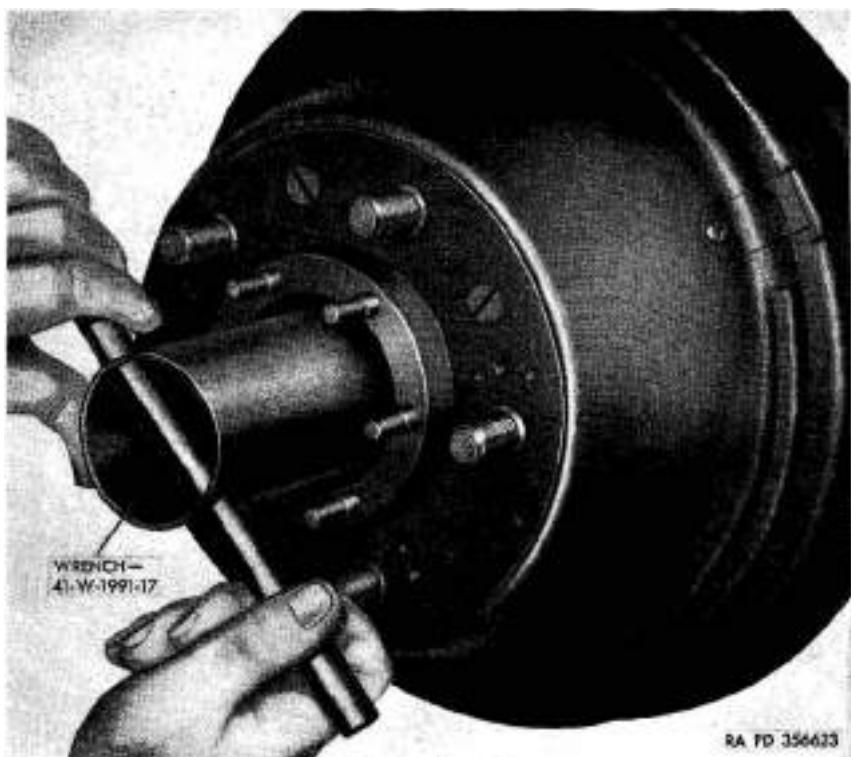
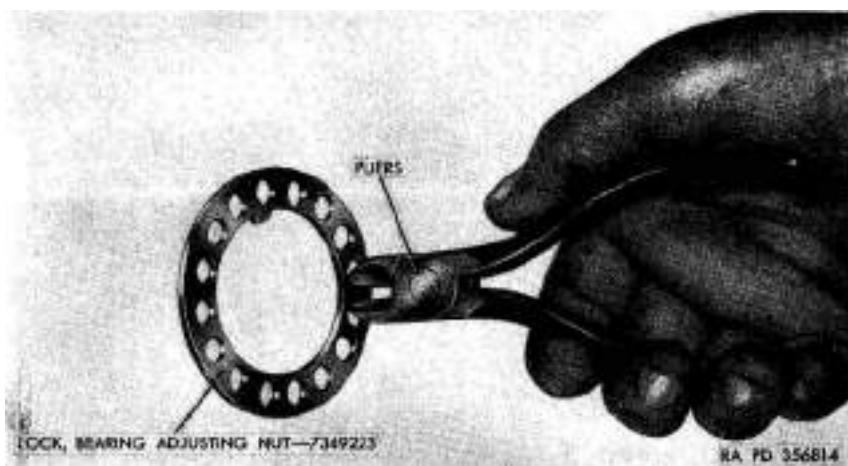

Figure 46. Removing bearing adjusting nuts.
Figure 47. Handling bearing adjusting nut lock with pliers.
- (2) Remove nuts and lock washers from drive flange studs.
- (3) Loosen nuts and remove puller set screws from drive flanges. Remove nuts from screws and install screws in drive flanges.
- (4) Pull each flange from hub studs by tightening puller screws.
b. Remove Hub With Brake Drum Assemblies. Remove right and left bearing outer adjusting nuts with wrench 41-W-1991-17 (fig. 46). Remove right and left bearing adjusting nut locks with diagonal-cutting pliers (fig. 47). Remove right and left bearing inner adjusting nut assemblies with wrench 41-W-1991-17 (fig. 46). Remove hub outer bearing cones and hub with brake drum.